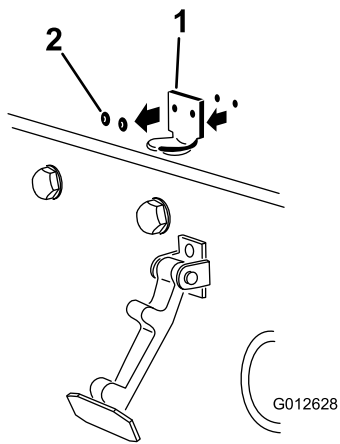

Figure 32
2. Remove the rivets (2) securing the hood-latch bracket to the hood (Figure 32). Remove the hood-latch bracket from the hood.